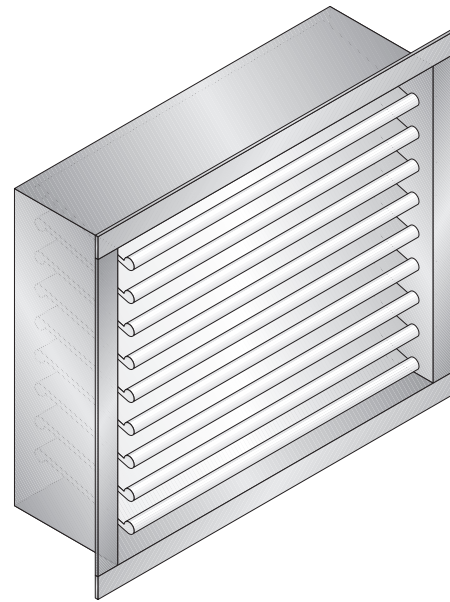

Figure 3.1: Provide Air Openings for Combustion and Ventilation Air
1. Air Openings: Provide air openings for combustion and ventilation as required by ANSI Z223.1 and local requirements (Figures 3.1, 3.6 and 3.7).